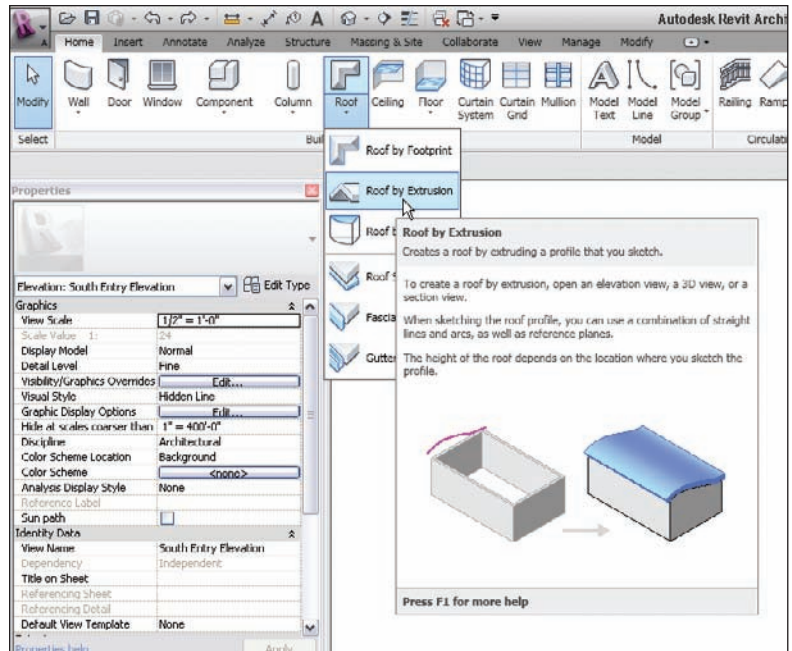

FIGURE 7.49 The Roof > Roof By Extrusion command
1. On the Home tab, select the Roof > Roof By Extrusion command, as shown in Figure 7.49.